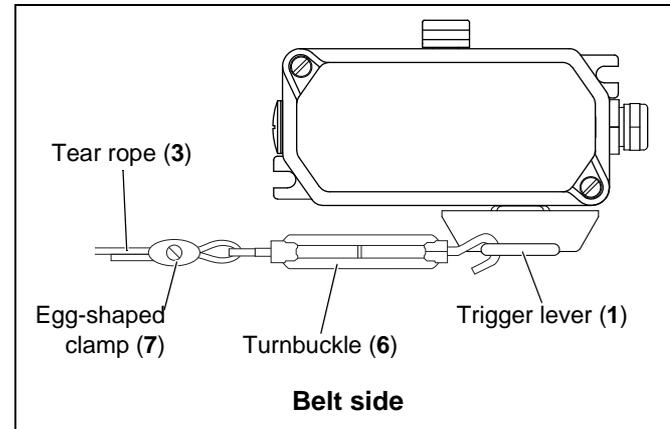

Fig. 5-6: Attaching the turnbuckle
- Secure the Tear rope (3) using the Egg-shaped clamp (7) on the Tension spring (4) (see fig. 5-6).
- Fix the Eyebolts (8) to the conveyor belt structure to guide the Tear rope (3).